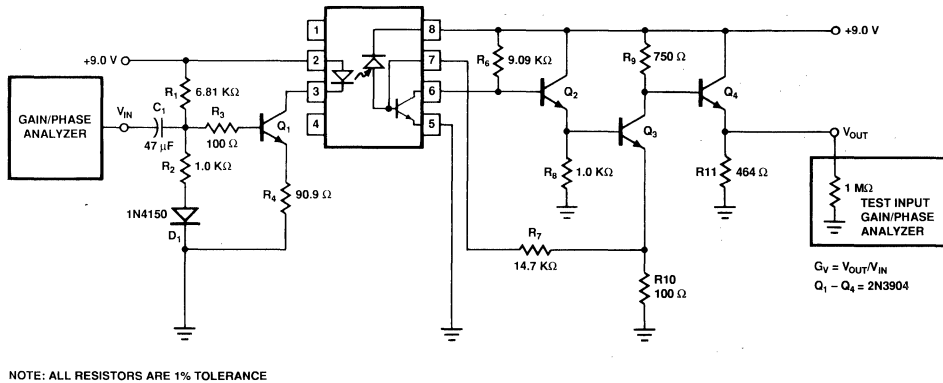

Figure 1. Gain and Bandwidth Test Circuit.
- When used in the circuit of Figure 1 or Figure 4; $G_V = V_{OUT}/V_{IN}$;